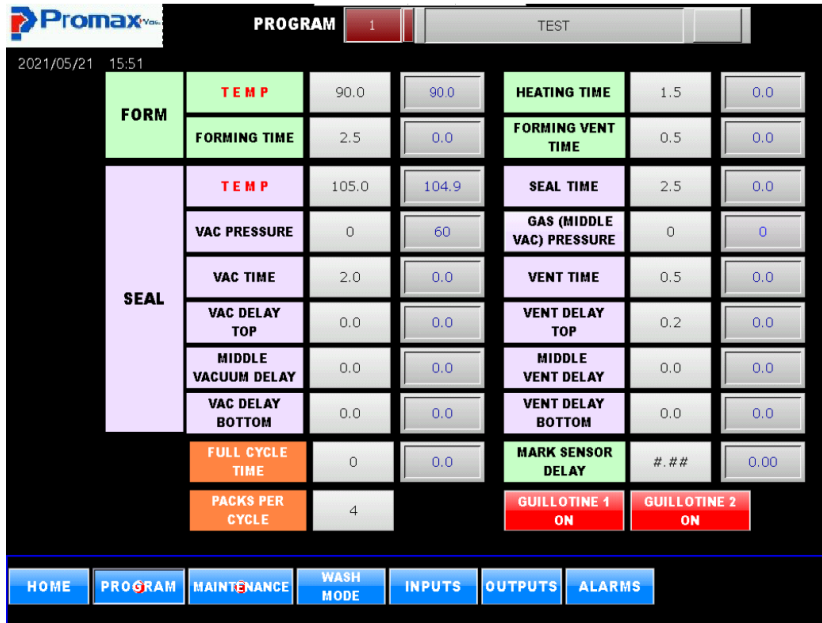

Fig.OP-5.19
-The program screen will appear (Fig. OP-5.19 below).